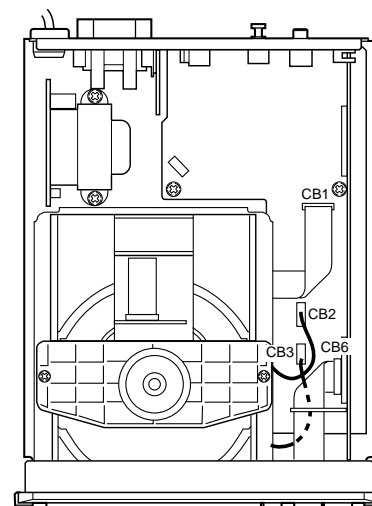

Fig. 2
- a. Remove a connector (CB6) in Fig. 2.
- a. Remove 3 connectors (CB1, CB2, CB3) in Fig. 2.